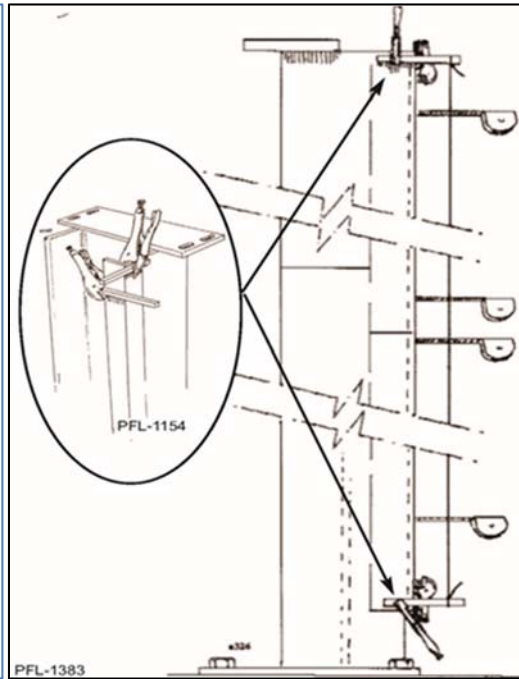

Figure 5
8. Proper alignment is CRITICAL to the installation and operation of the VRC. Use a string to check alignment, **see Figure 5**. The column is to be aligned from two directions, **see Figure 5** inset. Keep equal distance between the string and the guide angle down both column sections.